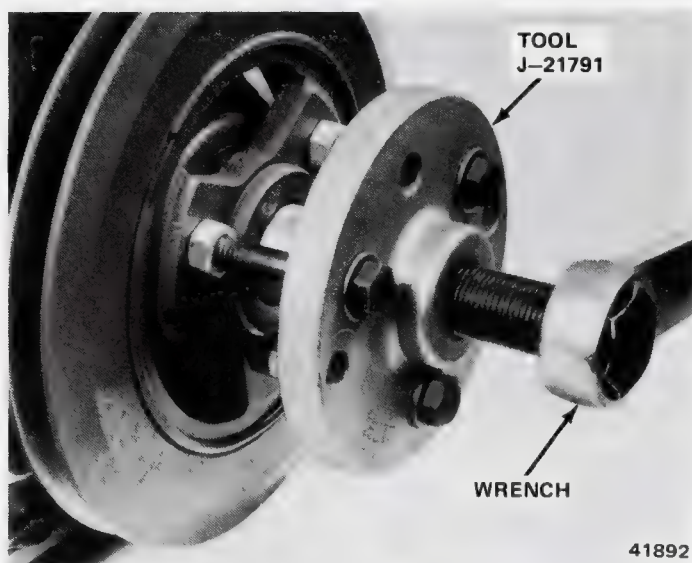

Fig. 1B-121 Vibration Damper Removal
- (1) Remove drive belt(s).
- (2) Remove retaining capscrews and separate vibration damper pulley from vibration damper.
- (3) Remove vibration damper retaining screw and washer.
- (4) Use Vibration Damper Remover Tool J-21791 to remove damper from crankshaft (fig. 1B-121).